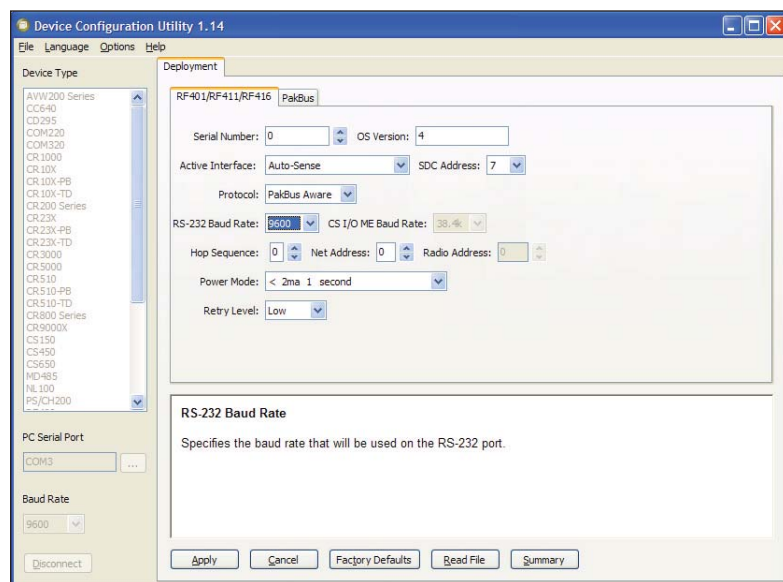

Figure 3. RF401 Setup
6. Press the "Program" button on the RF401, and DevConfig will display the Deployment panel—defaulting to the RF401/RF411/RF416 tab (see figure 3).
8. Select the "Active Interface." This should be set to Datalogger SDC if the RF401 will be connected to a CR206(X) or another PakBus datalogger. Select ME for the Active Interface if the RF401 is connected to a mixed-array datalogger. When the RF401 is connected to a PC, select either the "AutoSense" or "RS-232" mode; newer PCs may require a USB-to-RS232 serial adapter. The "AutoSense" mode senses whether or not a datalogger is connected to the RF401's CS I/O port, and accordingly routes network packets to its CS I/O port or RS-232 port. When the radio is connected to another RS-232 communication device, select the "RS-232" setting.
- Typically, select either "PakBus Aware" or "PakBus Node" for the "Protocol" setting (the CR206(X)'s "RF Protocol" should be PakBus). Radios set to "PakBus Aware" and radios set to "PakBus Node" can exist in the same network. The "Transparent" setting should only be chosen if the network contains CR205 dataloggers or RF400 radios. When the "Transparent" mode is used, all CR206(X) dataloggers and RF401 radios in the network must be set to "Transparent".